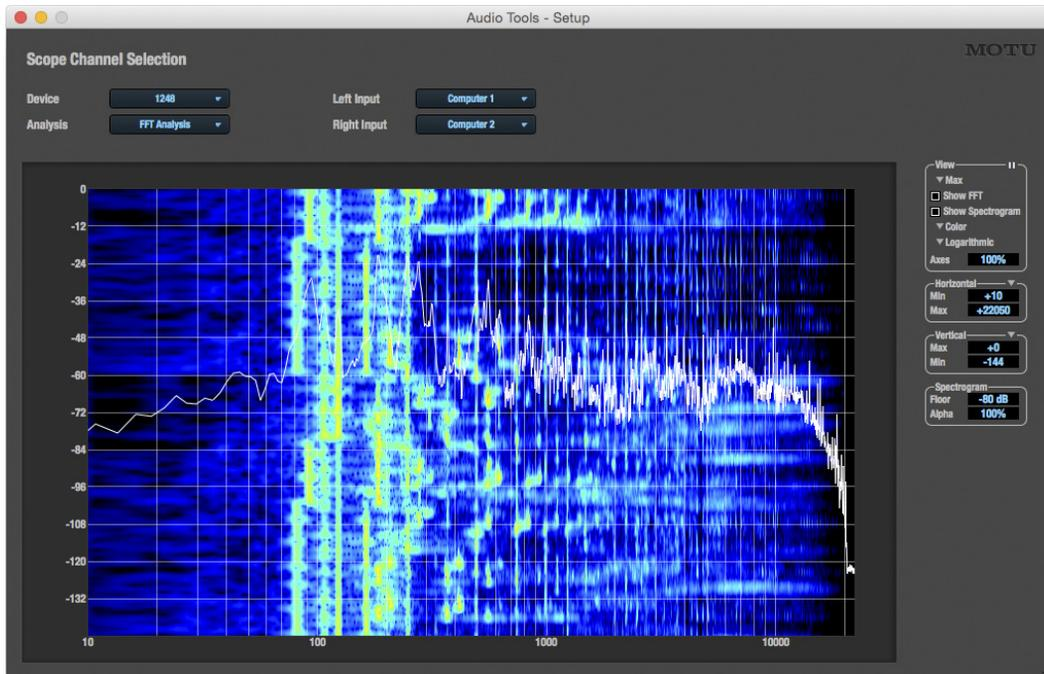

Figure 9-1: The MOTU Audio Tools window with the FFT and Spectrogram Analysis.
If you are working with more than one MOTU audio interface, the *Device* menu (Figure 9-1) displays all interfaces that are currently connected to your host computer. Choose the device you wish to work with.
Choose the desired form of audio analysis from the *Analysis* menu (Figure 9-1). For details on each analysis pane, see the following sections of this guide.
Choose the desired channel(s) you wish to scope from the *Left Input* and *Right Input* menus (Figure 9-1). These menus display the *To Computer* channels configured in the MOTU Pro Audio Control web app. The number of channels shown is controlled by the *To computer* setting in the Routing tab (item 28 on page 21). For example, if 18 channels are specified, you'll see 18 channels in the *Left/Right Input* menus. Use the Routing tab to map desired audio sources (listed across the top of the grid) to the *To Computer* audio channels, as demonstrated in Figure 7-7 on page 79.